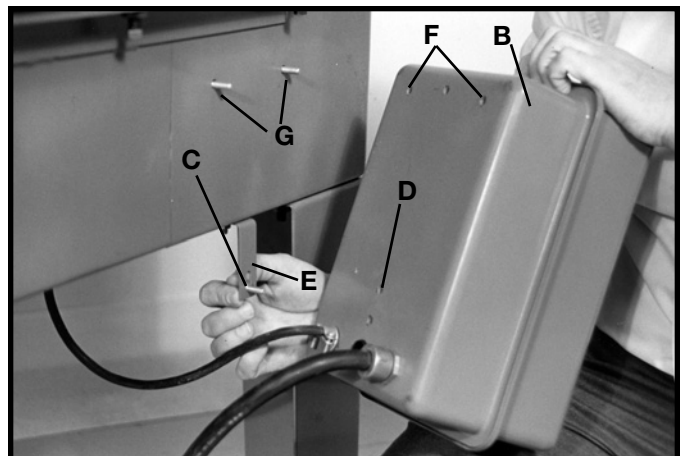

Fig. 14
2. Assemble the starter box (B) Fig. 14, to the right side of the base. Place a 1/4" lockwasher onto a 1/4-20 x 1/2" hex head screw, place a 1/4" flat washer on the screw and insert the hex head screw (C), through the hole in the bracket (E), and thread screw into the weld nut (D) Fig. 14, in the back of the starter box (B). Repeat this process for the two remaining holes in the base (G) and the holes (F) in the starter box.